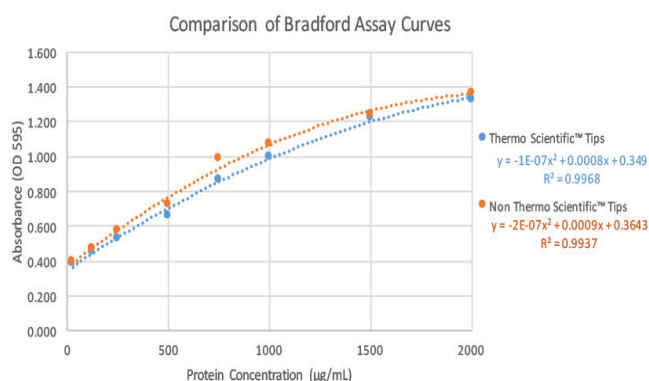

Figure 2. Standard Curve using Thermo Scientific™ automation tips vs non Thermo Scientific™ automation tips.
The performance of Thermo Scientific automation tips on a Tecan Freedom EVO system was evaluated against non Thermo Scientific™ automation tips by comparing the consistency of triplicates and the accuracy of the standard curve in a Bradford assay. The consistency is shown by the coefficient of variation (CV) being at or below 1.1562% (Table 1). When compared to the non Thermo Scientific™ automation tips, the Thermo Scientific automation tips were equivalent to if not better in precision. The standard curve using Thermo Scientific automation tips has a high R^2 value ($R^2=0.9968$, Figure 2), indicating the high accuracy of the automation tips in pipetting the standard curve. Comparison of the standard curves between Thermo Scientific™ automation tips and non Thermo Scientific™ automation tips show that Thermo Scientific automation tips are equivalent to the competing brand of automation tips (Figure 2). To further highlight the precision and accuracy of the Thermo Scientific automation tips used, we compared two different plates which allowed a comparison of the consistency of the OD value and CV between plates (Figure 3).